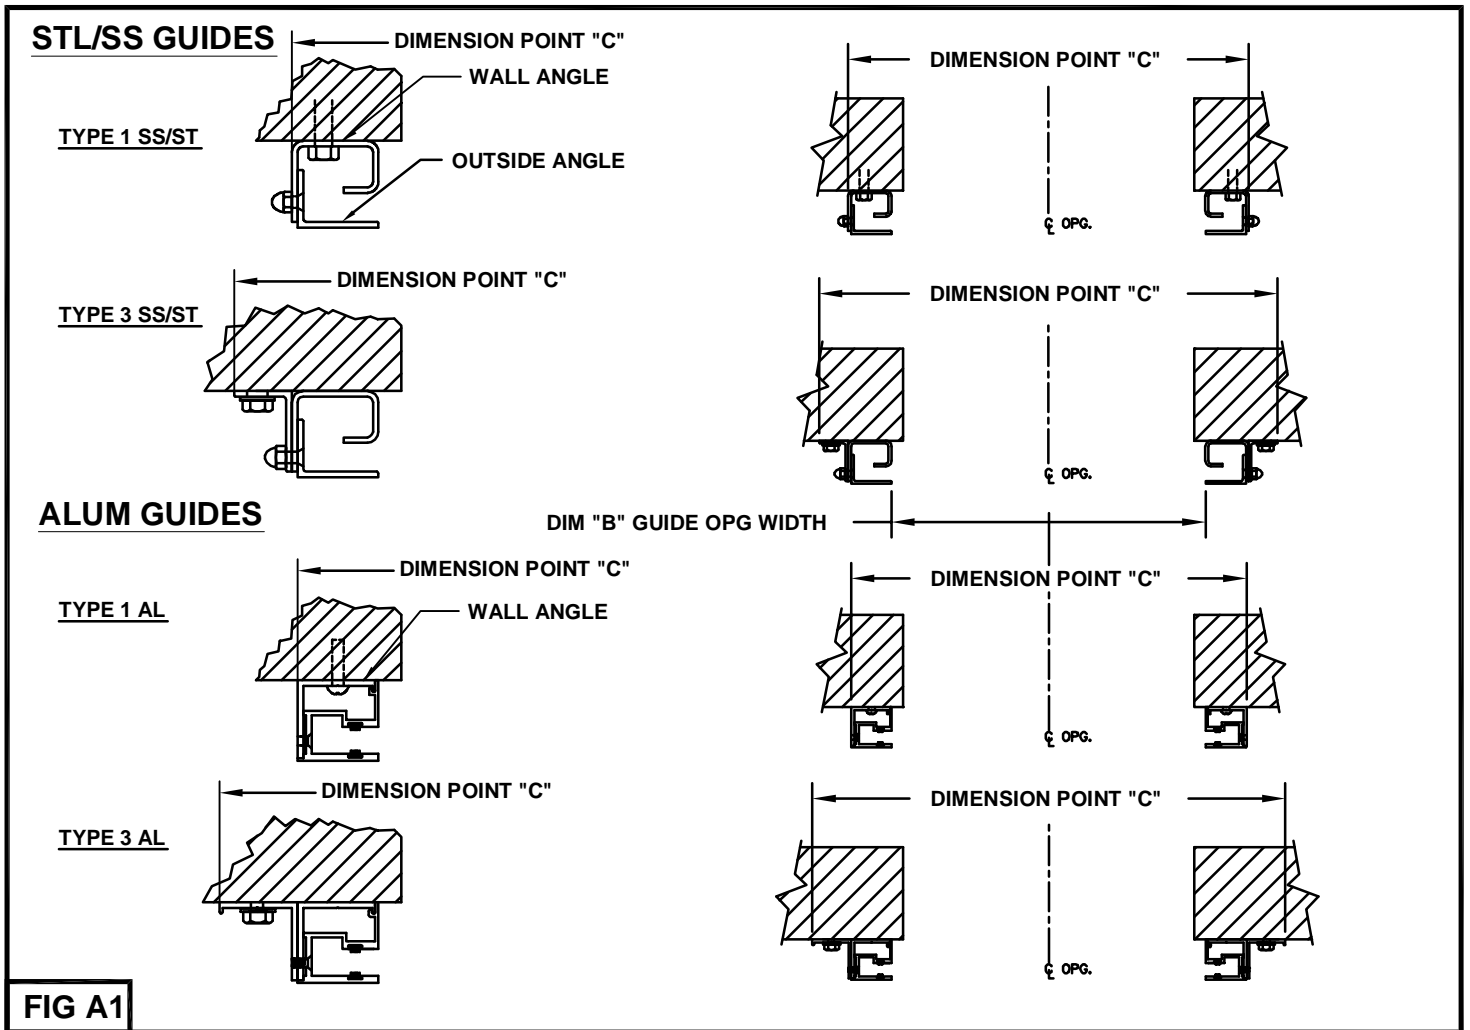

FIG A1
- 2) For typical installation for Type 1 and 3 (See FIG. A1) guide assemblies, Dimension point "C" is centered around jamb opening - (if side room permits) - if there are questions check job construction drawings (if available).